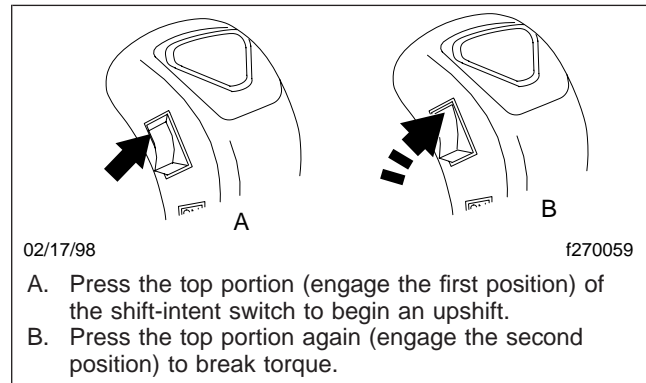
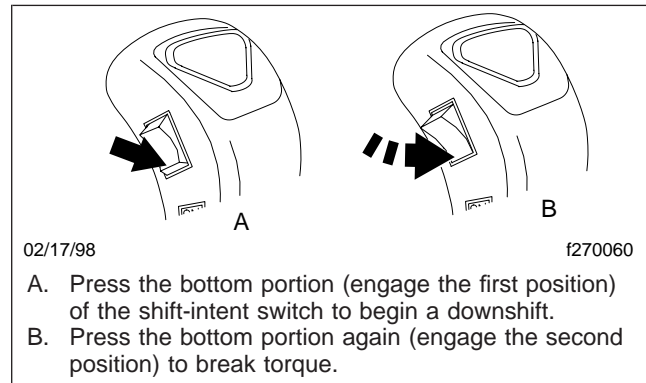

Fig. 8.30, ESS Upshifting Using the Shift-Intent Switch
Fig. 8.31, ESS Downshifting Using the Shift-Intent Switch
NOTE: If the system switch is OFF, use the shift-intent switch to select between ranges. Push the top of the switch (Fig. 8.30) to select the HI range on upshifts and the bottom of the switch (Fig. 8.31) to select the LO range on downshifts.
- 1.3 Press the top portion of the shift-intent switch again, far enough so that the switch goes into a second position inside the body of the shift handle. Then release the switch. See **Fig. 8.30**. This will break torque.
- 1.3 Press the bottom portion of the shift-intent switch again, far enough so that the switch goes into a second position inside the body of the shift knob. Then release the switch. See **Fig. 8.31**. This will break torque.